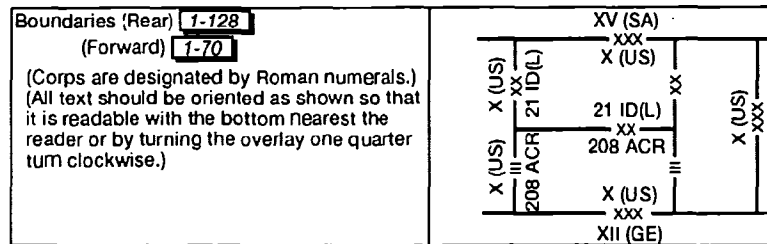

Figure 071-332-5000-1. Rear Boundary
(3) If a rear boundary is shown, the size indication along the boundary corresponds to the low unit. Arm or branch is shown when required to prevent confusion (figure 071-332-5000-1).
(4) Desirably, boundaries are drawn along terrain features easily recognizable on the ground, and are situated, if possible, so the key terrain features, avenues of approach, and river are wholly inclusive of the one unit. They are shown by a solid line if currently in effect or made effective by the order prepared. Their use is based on the techniques and tactics peculiar to the type of tactical operation in which they are used.
(5) Future or proposed boundaries are shown by a broken line and labeled to indicate the effective time, if appropriate (figure 071-332-5000-2).